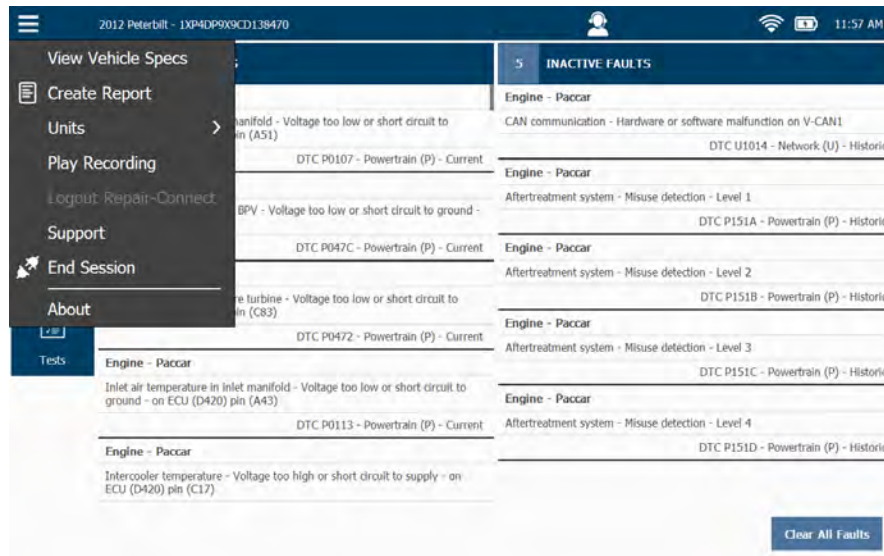

Figure 4.41 Diagnostics Menu
- 18 Touch the **Back Arrow** to return to the Diagnostics Menu (Figure 4.41).